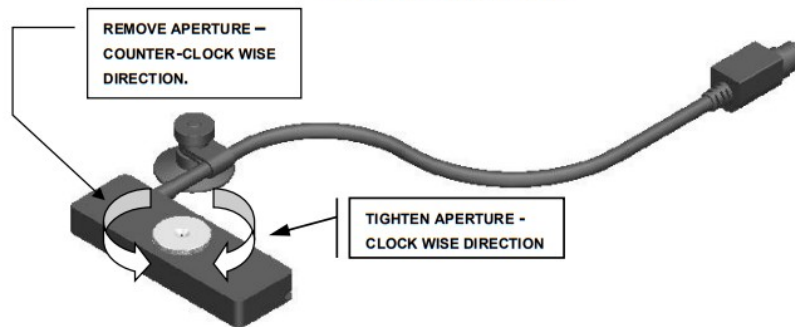

Figure 5 LED Light Sensor Aperture
5.1.2 To remove the aperture, twist and rotate the aperture in a counter-clock wise direction. (do not use mechanical tooling). Refer to Figure 5.
5.1.3 To install the aperture, engage threads and hand tighten the aperture in a clock wise direction until a positive force is felt. (do not over tighten or use mechanical tooling). Refer to Figure 5.